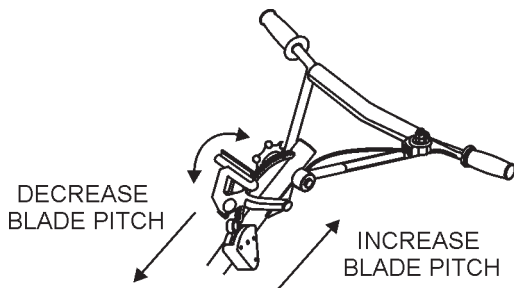

Figure 28. Quick-Pitch™ T- Handle
1. To pitch the blades upwards using the "**Quick-Pitch™**" **T-handle**, (Figure 28) simply squeeze the trigger lock and pull the **T-handle** towards the operator. Pushing the **T-handle** towards the engine will cause the blades to lay flat.